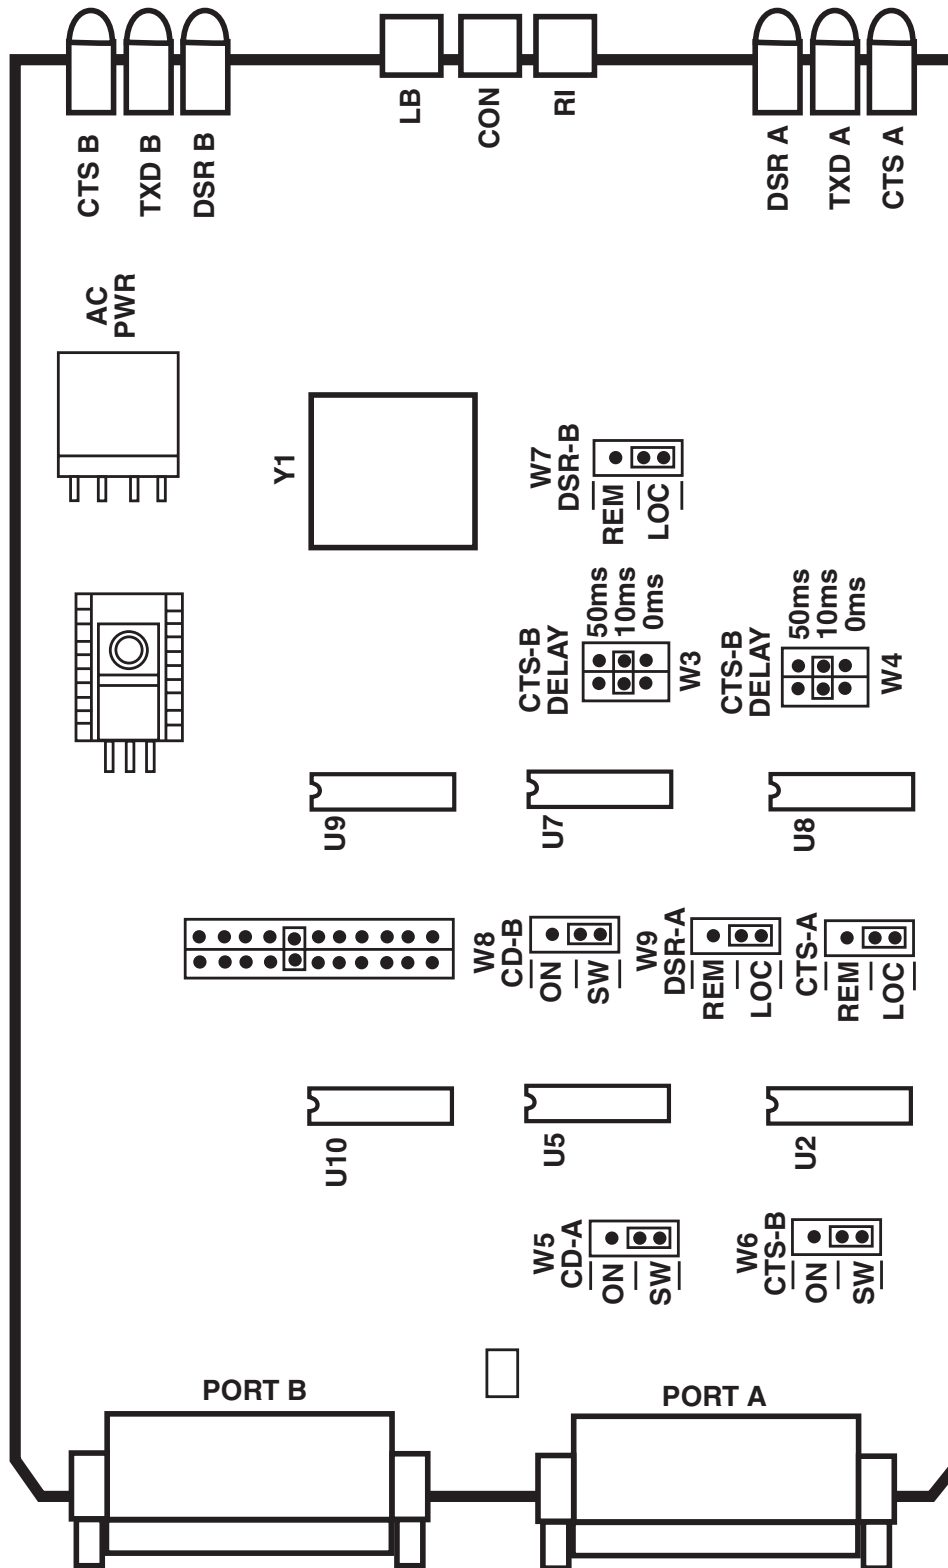

Figure 2-3. Location of Controls, Indicators and Straps
4. Select the operating mode by installing the speed selection strap (W2 in Figure 2-3) to async or the desired synchronous speed as shown below. For more information see **Chapter 7**.